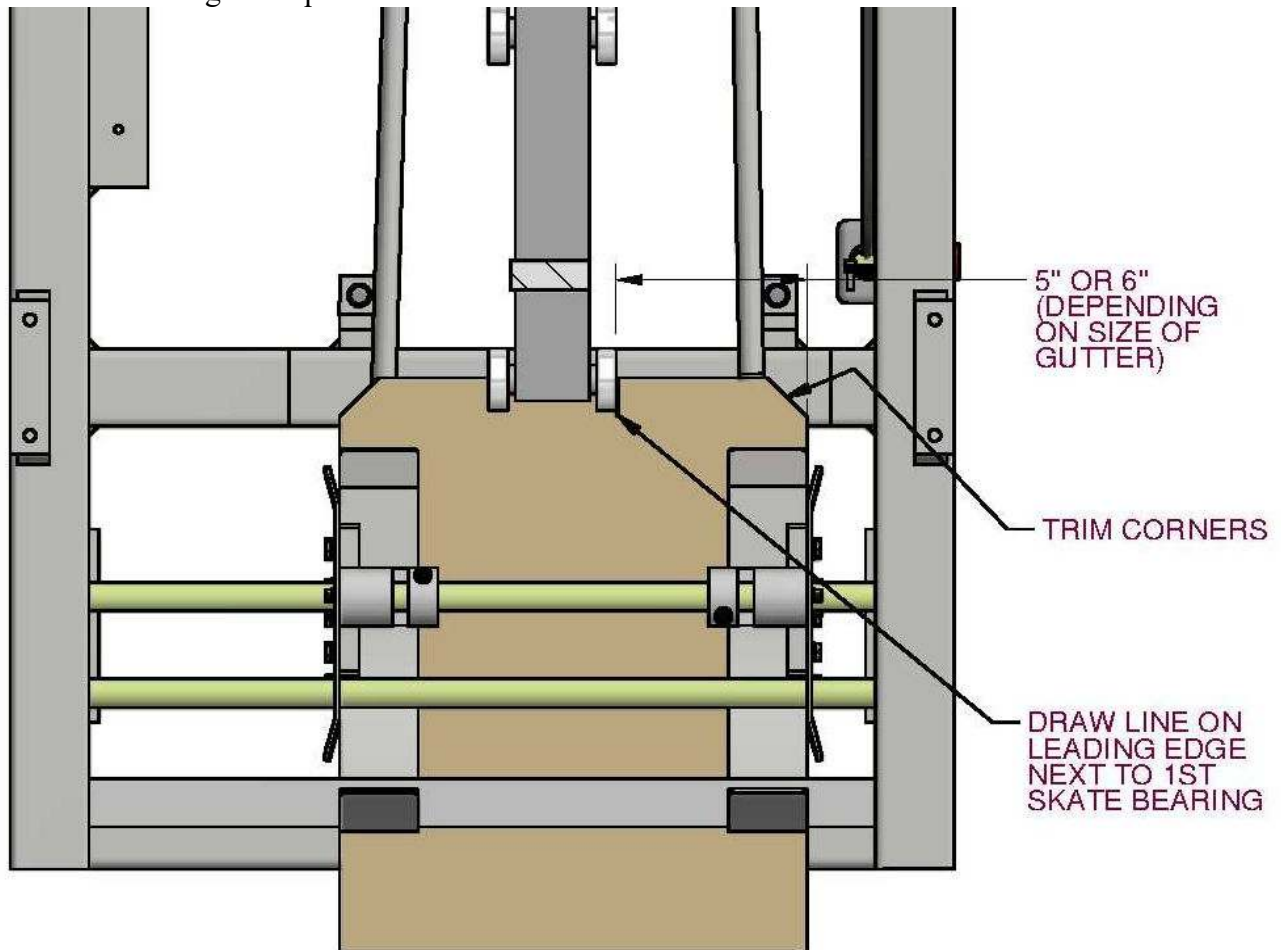

Figure 19: Feeding Material – 1st Skate Bearing
7. Feed a short test piece of coil or the end of the coil that will be used into the entry guides. Make a mark on the leading edge of the material next to the first skate bearing as shown in Figure 19. Continue to feed the material past the Auxiliary Guide Posts. If necessary, loosen Screws "D" and/or "E" and move the guide posts towards the outside of the machine in order to make space for the material.